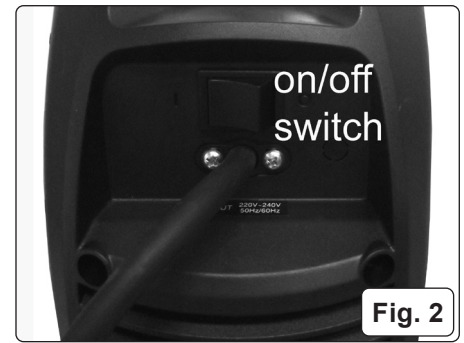

Fig. 2
- 4.2.1. In principle, when ARC welding the Electrode Holder "POSITIVE" is normally connected to the "POSITIVE" (+) terminal (fig.2).
4.4. BACK PANEL (FIG.2).